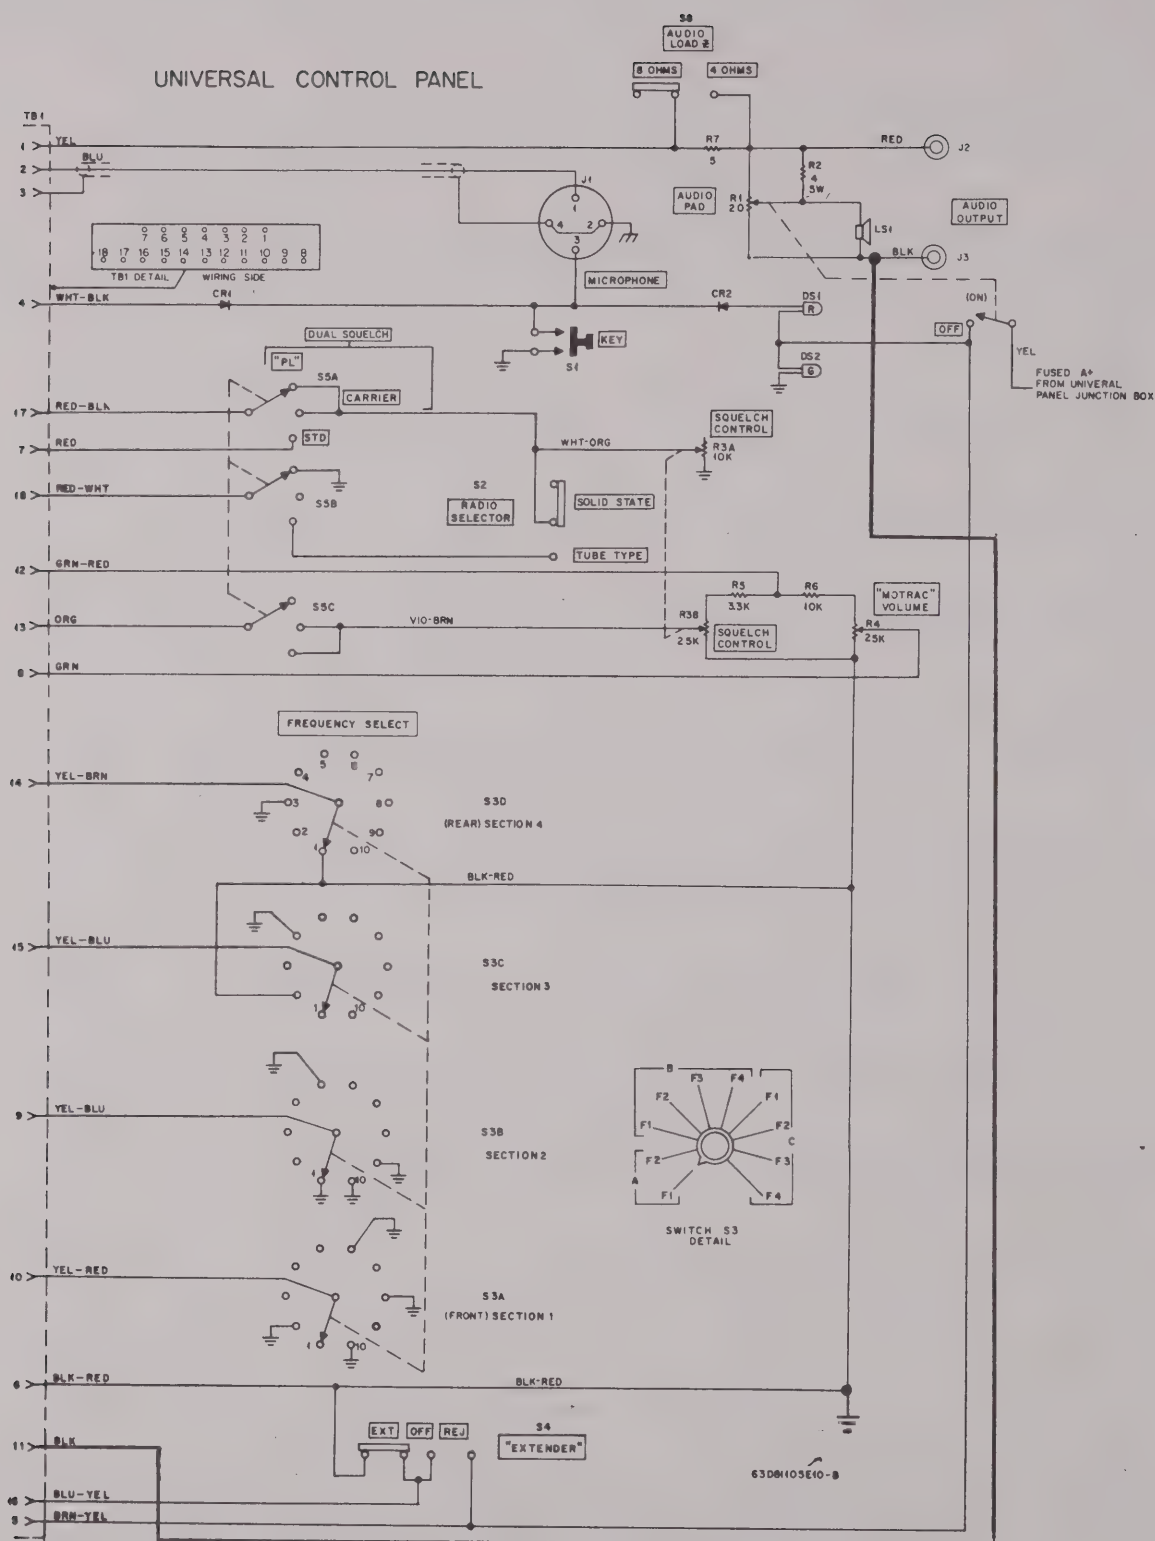

Figure 2. Modified TEK-25 Universal Control Panel
- 3.2 Make the following changes in the TEK-25 Universal Control Panel: (refer to Figure 2).